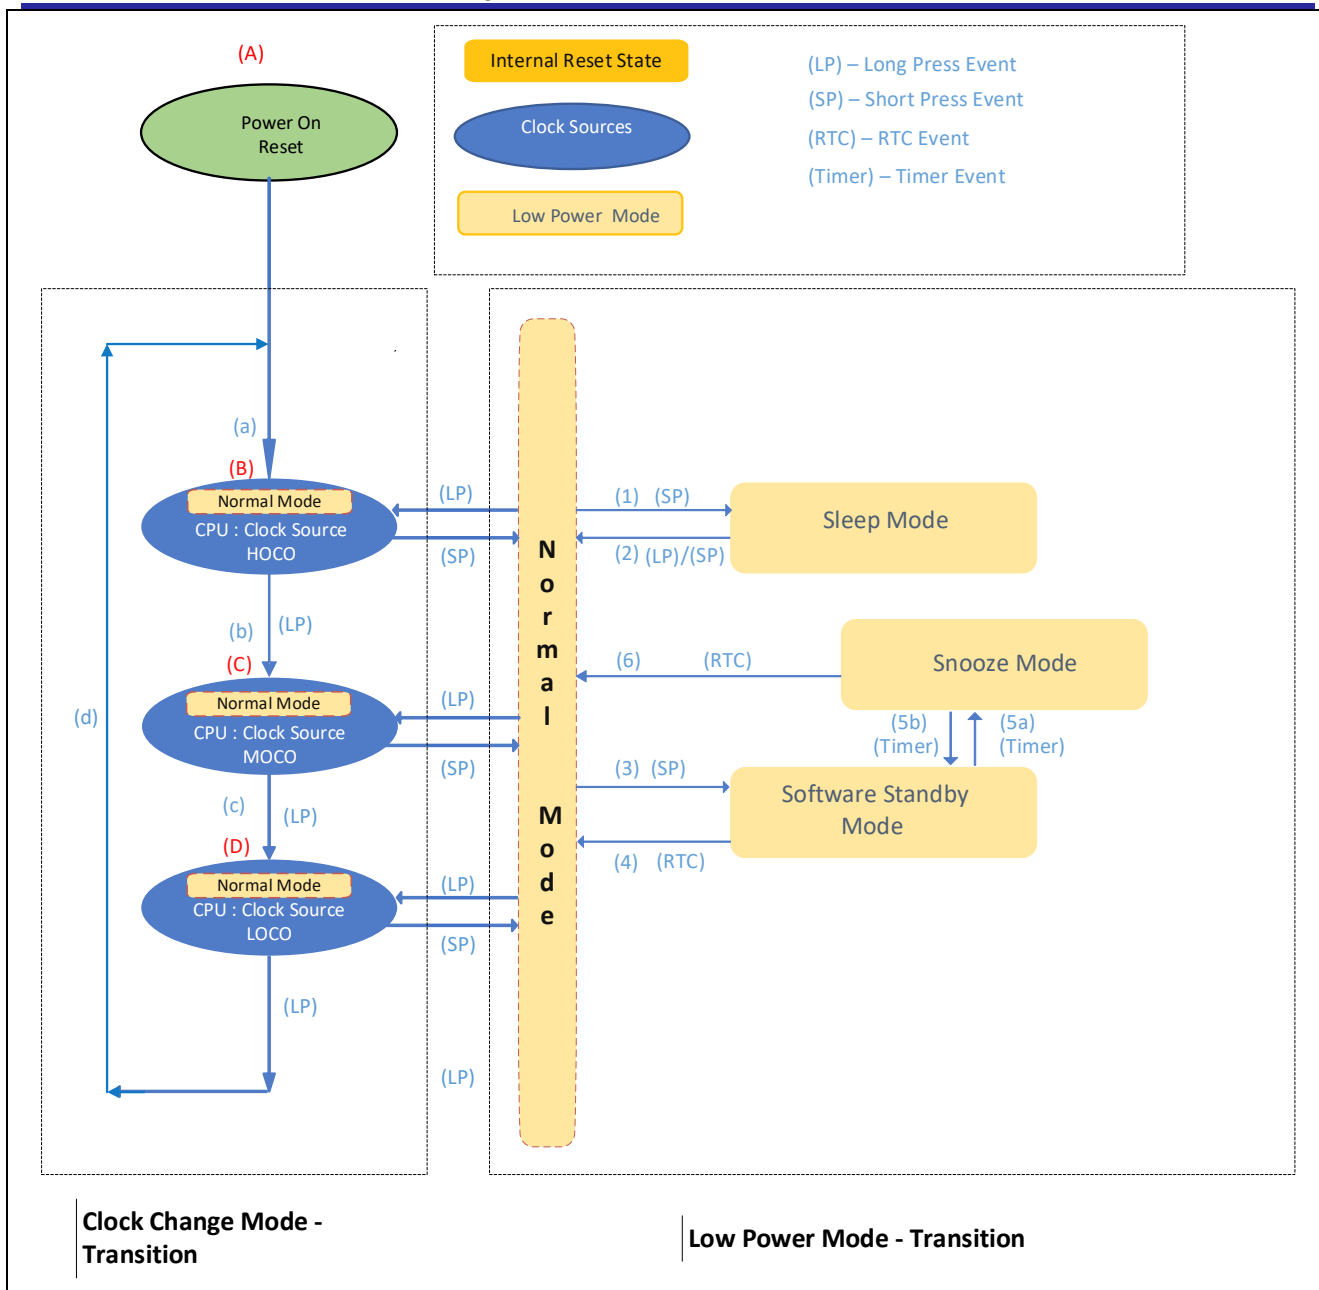

Figure 17. Clock Changing and LPM Transition
Figure 17 shows the different clock sources and the associated LPM used in the application and different transition states. The application is implemented using the event driven mechanism. In this event driven system, events can be user driven events or system generated events, which are used as the input to the finite state machine. Two separate state transition tables are used here in the application.
In the above Figure 17, the blue-colored oval-shaped blocks (B) through (D) represent the different clock states used in the application, and (a) through (d) labeled arrows are different transition paths it takes when changing the clock.
**Note:** The dotted block represents the Clock Change Mode transition on the left and the LPM Transition on the right, as shown in Figure 17.
**Note:** In the above Figure 17, for low-end RA devices (RA2XX), Sleep, Software Standby, and Snooze modes are supported.